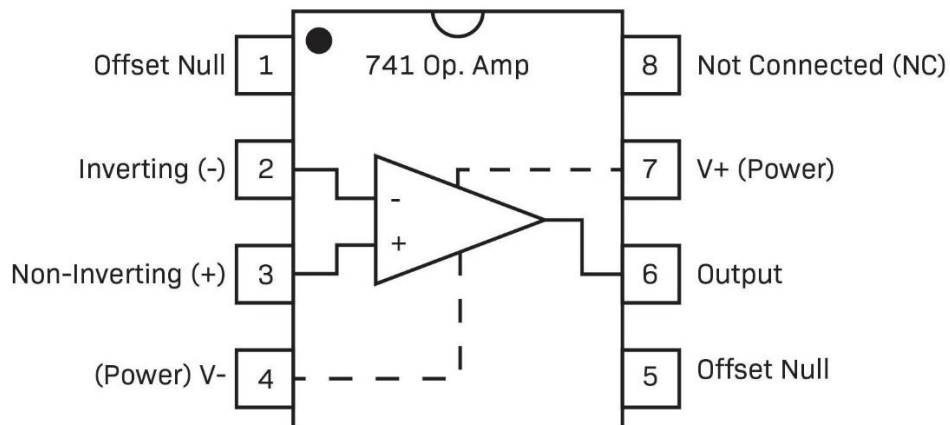

Figure 1 - Digital Representation of OP-AMP
3.....	Figure 1 - Digital Representation of OP-AMP